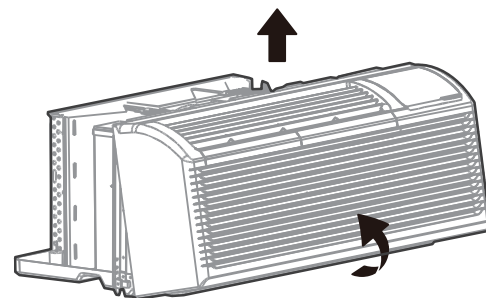

Fig.7
- Remove the front panel. (See Fig.7)